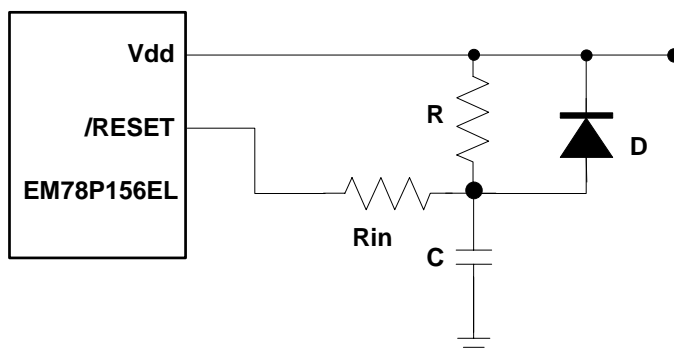

Fig. 16 External Power-Up Reset Circuit
The circuit shown in Fig.16 implements an external RC to produce the reset pulse. The pulse width (time constant) should be kept long enough for Vdd to reached minimum operation voltage. This circuit is used when the power supply has slow rise time. Because the current leakage from the /RESET pin is about $\pm 5\mu\text{A}$, it is recommended that R should not be greater than 40 K. In this way, the /RESET pin voltage is held below 0.2V. The diode (D) acts as a short circuit at the moment of power down. The capacitor C will discharge rapidly and fully. Rin, the current-limited resistor, will prevent high current or ESD (electrostatic discharge) from flowing to pin /RESET.